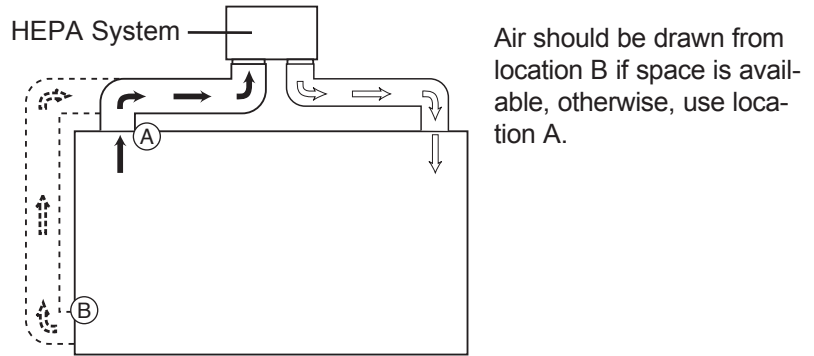

Figure 11.
- Inlet ducts should be installed near the floor for optimum airflow (see figure 11). If space does not allow, then the inlet can be installed in the ceiling.